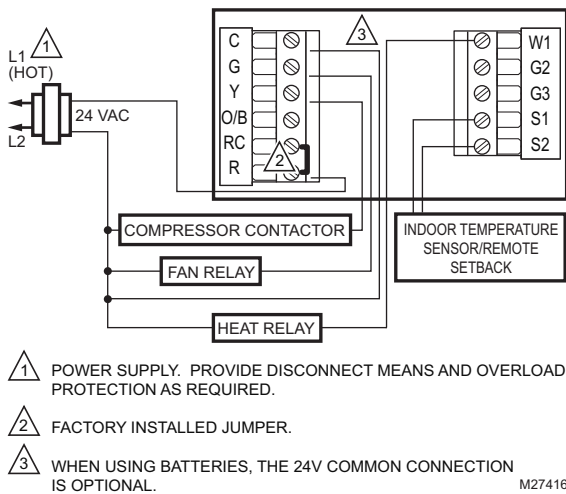

Fig. 11. Typical wiring of single transformer 1H/1C system.
- See Fig. 11 through 17 for wiring diagrams for specific equipment applications.